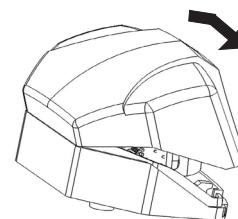

Figure 8
- Reinstall the Detector cover by engaging it over the latch on the front wall of the base (Figure 8) and latch the cover onto the base.